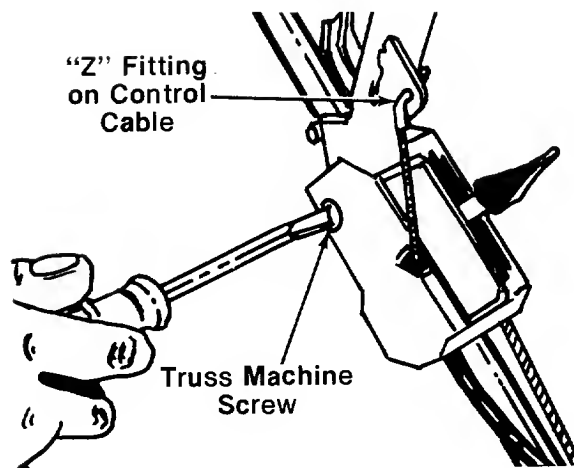

FIGURE 17.
5. Remove one truss machine screw on the inside of the control housing as shown in figure 17.